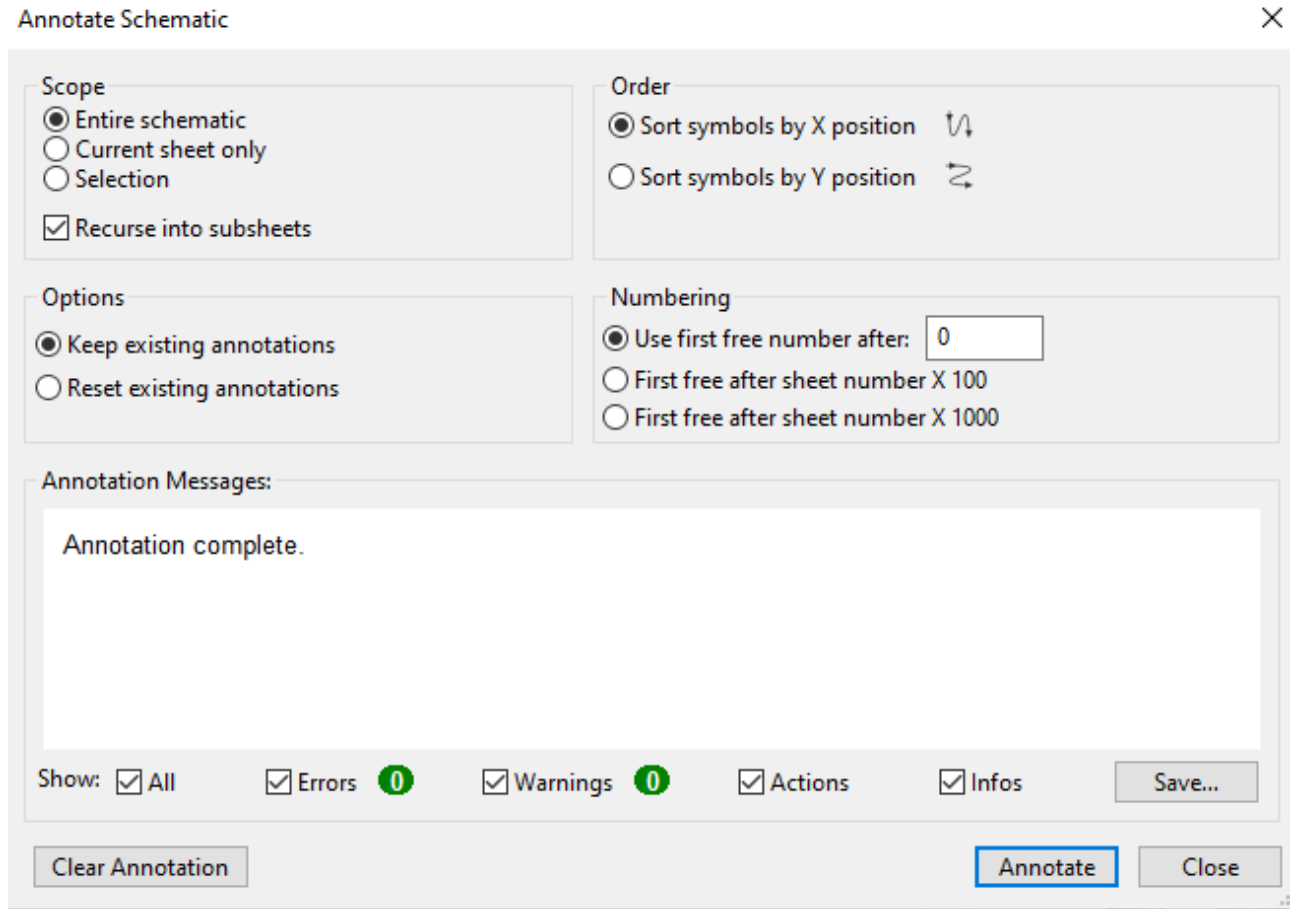

Figure 1: Annotate Schematic
- Figure 1:** Annotate Schematic